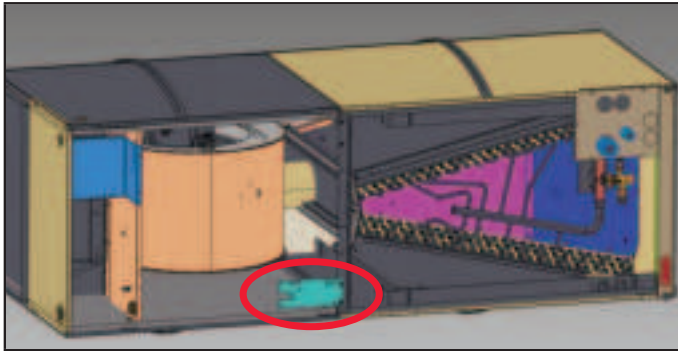

FIGURE 13
- 3 - After coil assembly and center support bracket are reinstalled into unit, with air handler unit panels removed, install sensor bracket assembly to the center support bracket by lining up the holes as shown in figure 13.